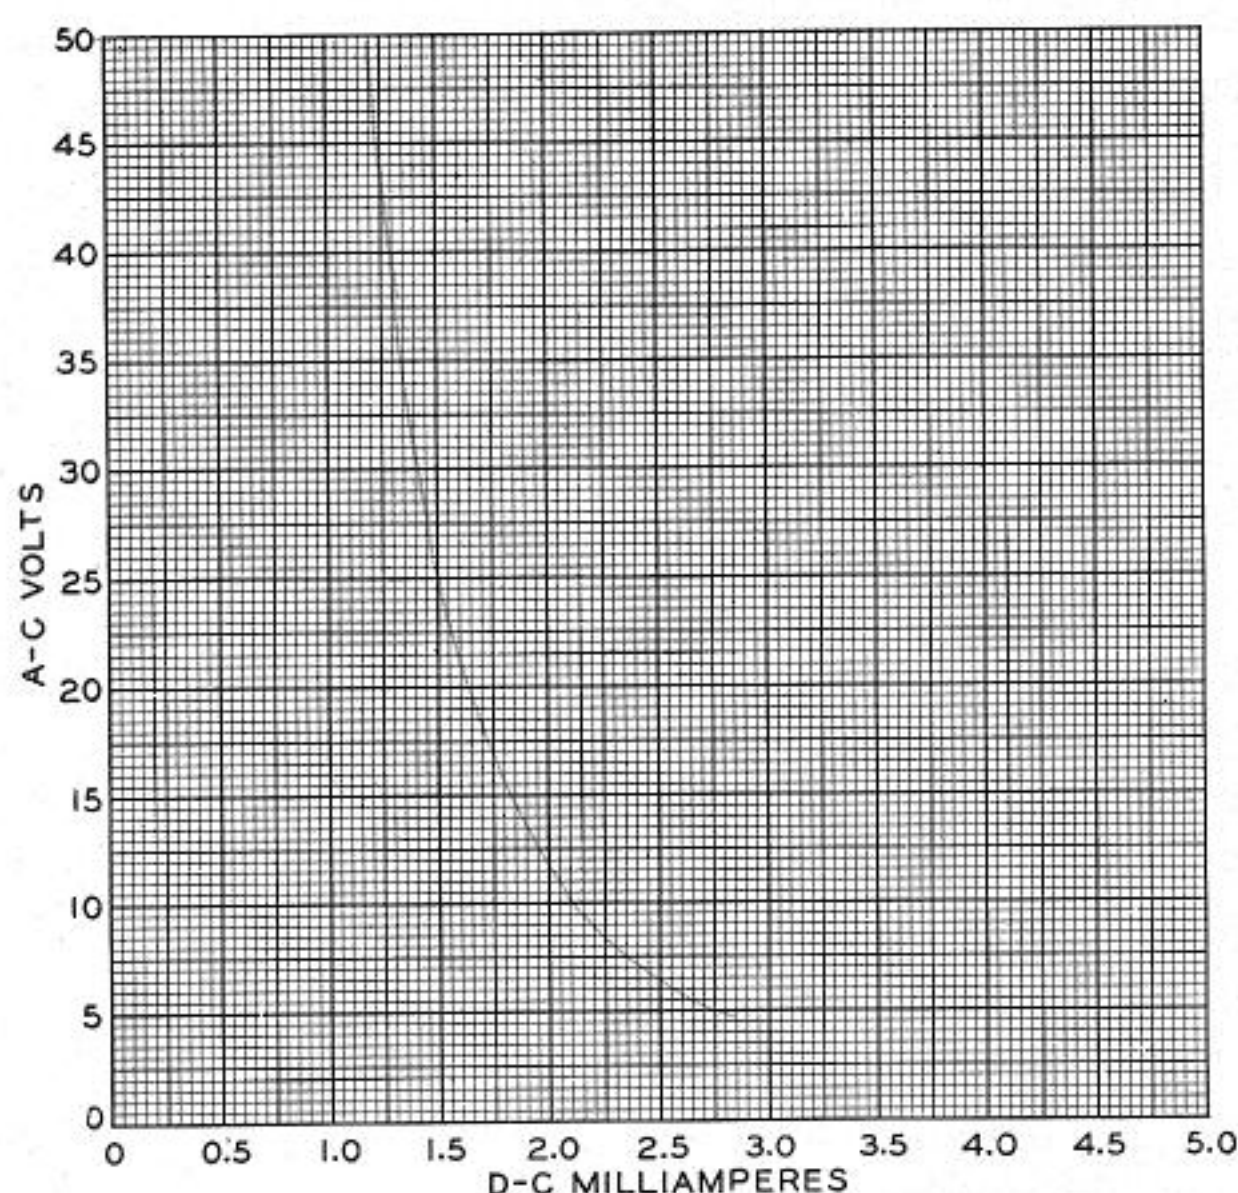

FIG. 11—A-C VTVM CALIBRATION CURVE
- (1) Set the master selector switch at $M \times 100$.
- (2) Throw switch at top left of panel to "5 ma d-c."
- (3) Throw switch at top right of panel to "hi volts d-c."
- (4) Plug CF-27 test leads securely into jacks marked "a-c volts."
- (5) Turn "Voltage Gain" control clockwise to turn Exam-eter on. Allow 1 minute to warm up. Then adjust until meter is at full scale deflection (5 ma).
- (6) Connect test clips across unknown voltage and read meter deflection on "MA" scale. Now refer this value to curve in figure 11 for actual value of voltage measured.